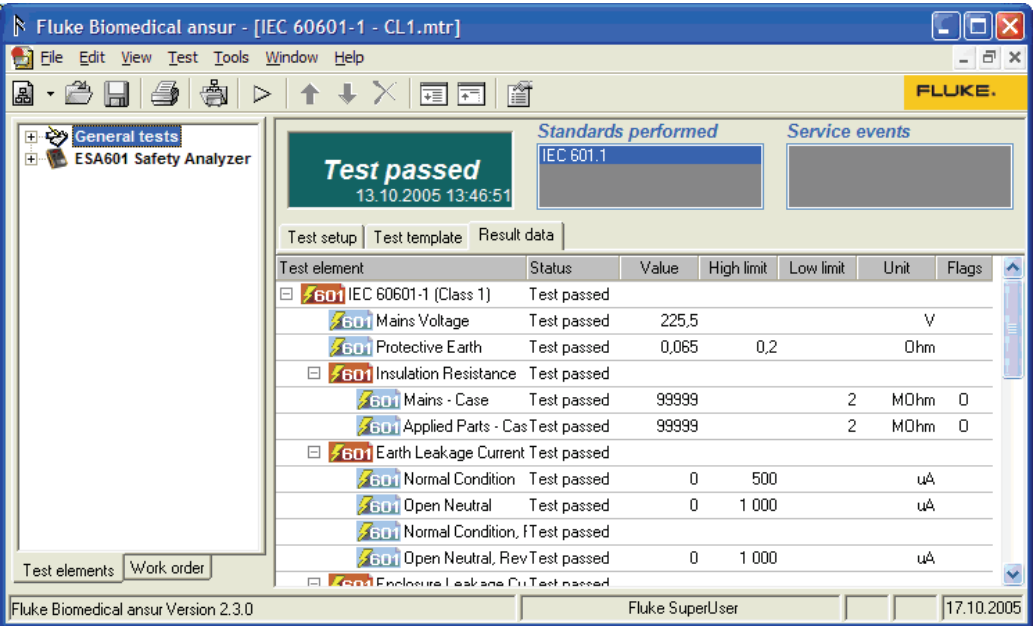

Figure 3-13. ESA601 Test Record
- Click the Next button (→) to create a Test Record. Figure 3-13 is a sample of an ESA601 Test Record.